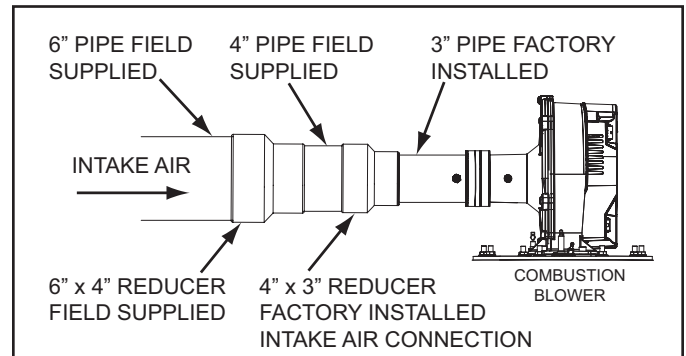

Figure 18. Air Intake Installation
15. If installing 6" intake air pipe transition to 4" pipe at the intake air connection on the water heater as shown in Figure 18. The field installed 4" pipe between the intake air connection and the 6" x 4" reducer coupling should be 18 inches (45 cm) or less in length.